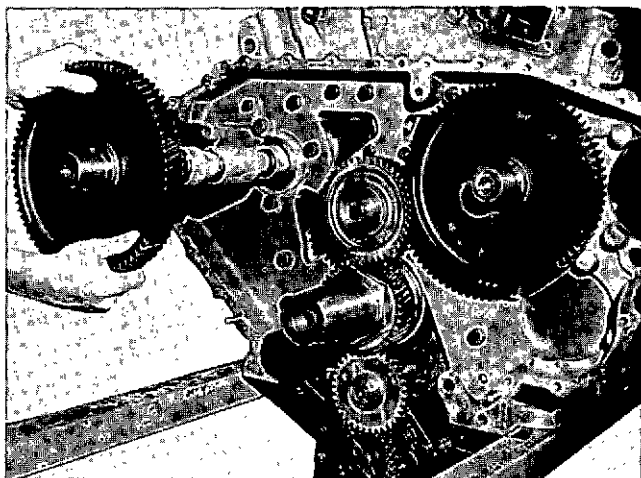

Fig. 14-1-33, V414135. Installing camshaft
2. Apply clean engine lubricating oil to camshaft journals and lobes; then carefully rotate camshafts through bores into position. Fig. 14-1-33.